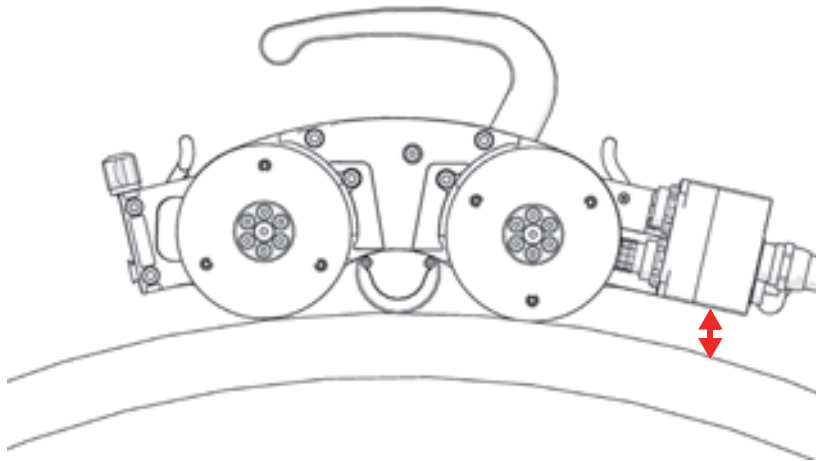

Figure 3-12 Swivel mount aligned parallel to scan surface
8. Align the front swivel mounts and umbilical mount to the appropriate relationship to inspection surface (see Figure 3-12 on page 66).